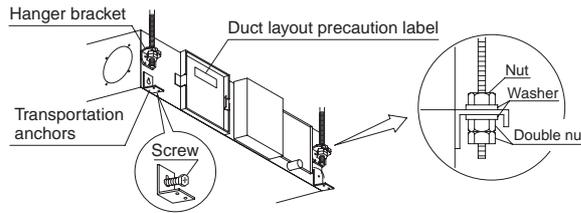

Fig. 4
(1) Install the unit temporarily.
- Attach the hanger bracket to the suspension bolt. Be sure to fix it securely by using nuts (M10, M12) and washers (M10 with external dia. 30 to 34 mm, M12 with external dia. 36 to 38 mm) (locally procured) from the upper and lower sides of the hanger bracket. **(Refer to Fig. 4)**